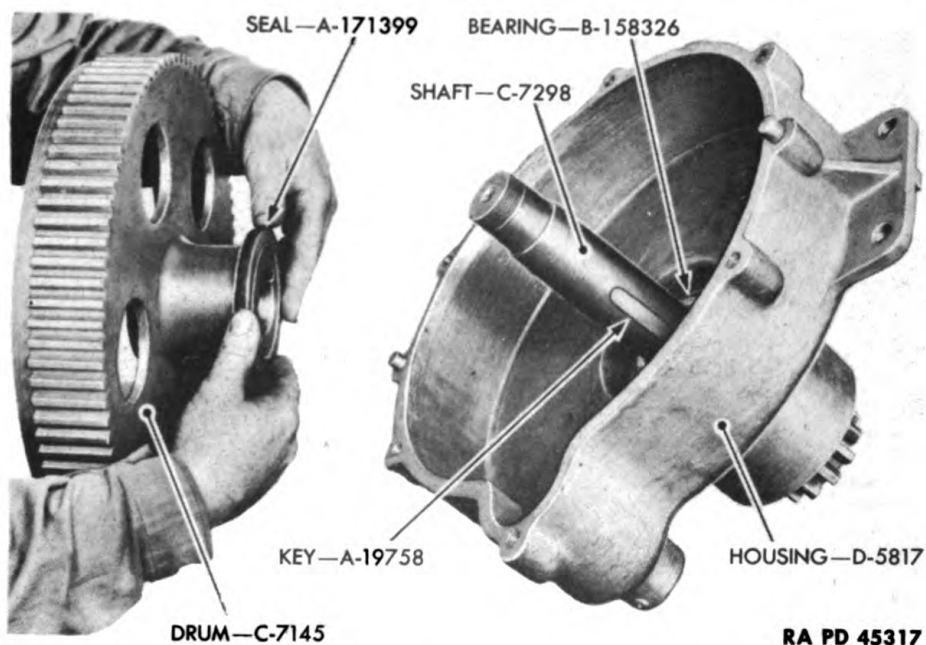

Figure 193—Assembling Elevating Brake Drum, Shaft and Housing
(1) Coat the elevating brake drum shaft and bearing seat in the elevating handwheel gear housing with grease. Slide the elevating brake drum shaft into place in elevating handwheel gear housing. Tap bearing, closure, and shaft into place if necessary. Insert the two brake drum keys into place in brake drum shaft.
(2) Push or tap the chrome leather seal on the hub of the brake drum with open leather edge of seal out so it will be toward the bearing in the housing (fig. 193).
(3) Coat the inside of the brake drum hub with grease. Slide drum into position on shaft and keys. Slide shaft sleeve in position on shaft. Install elevating clutch shoe in drum and housing with one of three